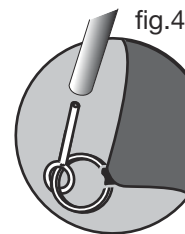

fig.4
- Insert the corner ring & pin into the bottom section of a pole. See fig.4. Then fit the top of the pole into the elbow of its corresponding rafter.